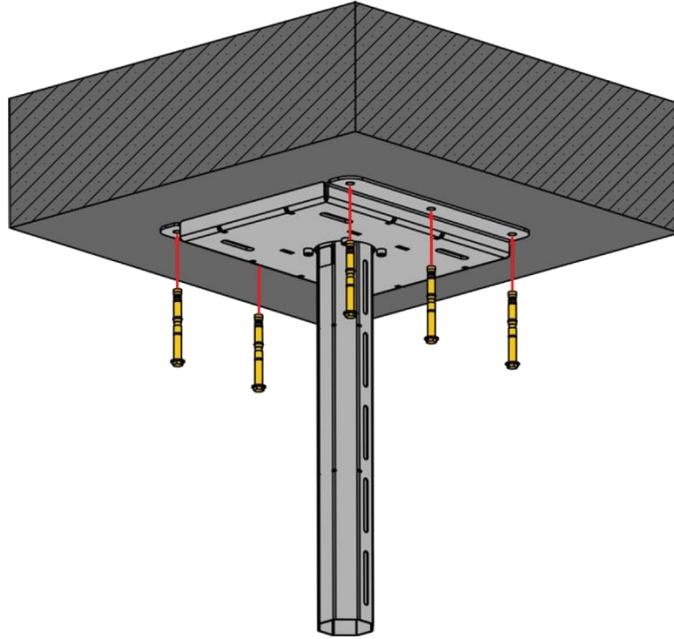

Figure 73:
1. Fasten the ceiling plate ① with upper tube ② by using the anchor bolts ⑪ (6 pcs.), as shown in **Figure 73**.